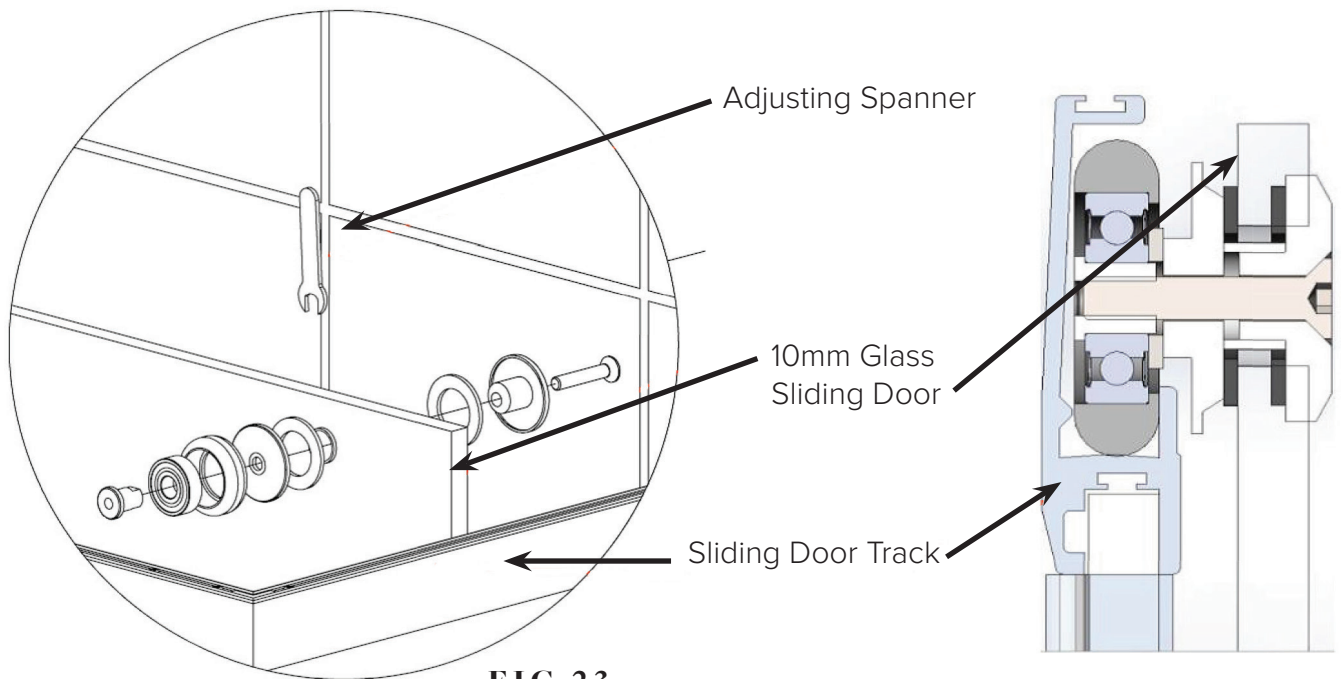

FIG 23.
- With the bush and hub pre-assembly in the opposite sides of the holes (**FIG 23**), place the glass sliding door into position on the wooden wedges, aligning the roller wheel holes at the top of the door as close as possible to align with the rollers in track.